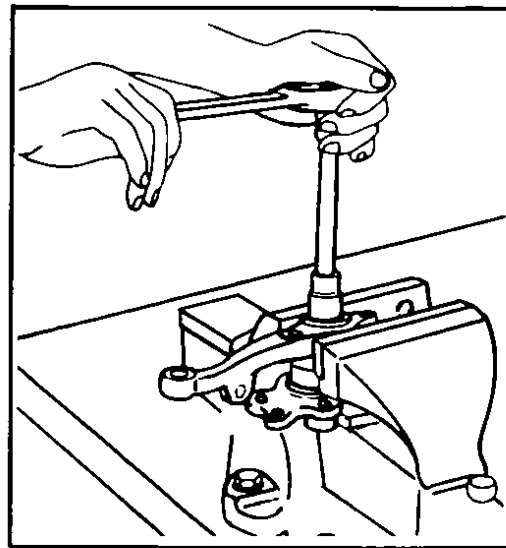

Fig 125 Removing ball joint
- 5 Place the transverse link in a vise, loosen the bolt securing the ball joint to the transverse link and remove the ball joint from the transverse link, Fig 125